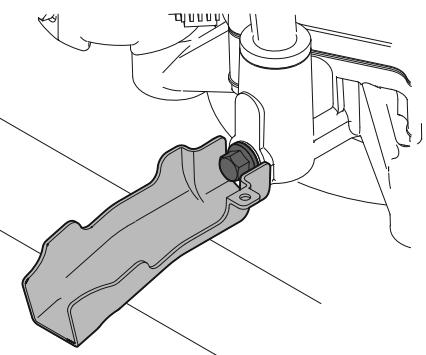

Figure 26
- Snap the small end of oil drain sleeve onto the oil sump. See Figure 26.